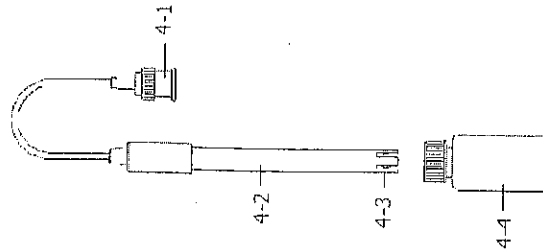

Fig. 2
- 2) Prepare the pH Electrode (optional), install the " Probe Plug " (4-1, Fig. 2) into the " pH Socket/BNC Socket " (3-14, Fig. 1).
- 4) Hold the " Electrode Handle " (4-2, Fig. 2) by hand and let the " Sensing head " (4-3, Fig. 2) immersed wholly into the measured solution and little shake the electrode.
When not use the Electrode, it should immerse the " Electrode sensing head " (4-3, Fig. 2) into the " Protection bottle " (4-4, Fig. 2)
- 1) Prepare the pH Electrode (optional), install the " Probe Plug " (4-1, Fig. 2) into the " pH Socket/BNC Socket " (3-16, Fig. 1).
- 4) Hold the " Electrode Handle " (4-2, Fig. 2) by hand and let the " Sensing head " (4-3, Fig. 2) immersed wholly into the measured solution and little shake the probe. Display will show the pH value.